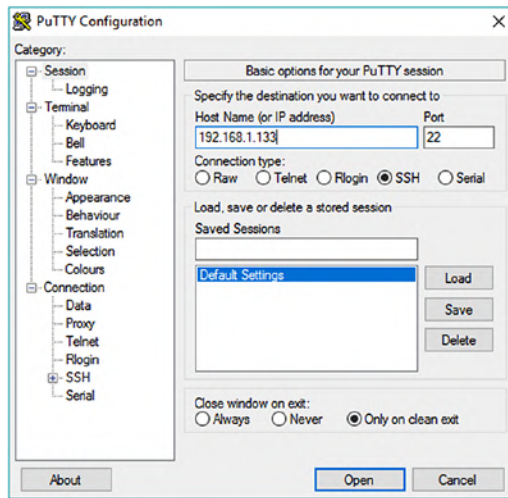

Figure 2-13. PuTTY configuration window
1. Open the PuTTY interface (see Figure 2-13).